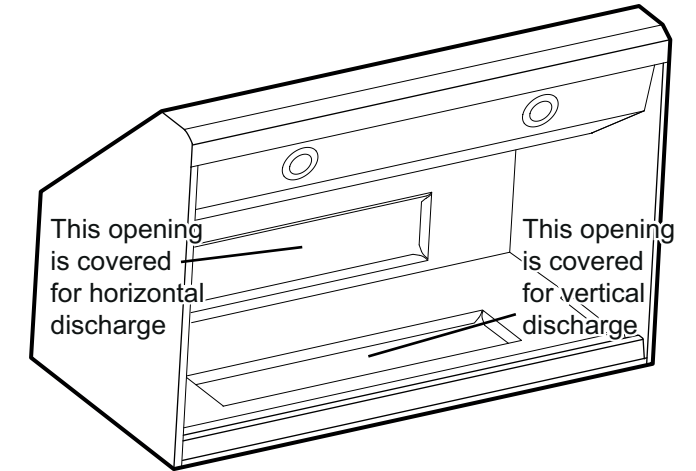

Figure 4: Discharge Direction
The hood is shipped ready for vertical discharge. To change to horizontal discharge, move the discharge cover shown in *Figure 4* to the top of the hood. The plate is held in place by (4) screws.